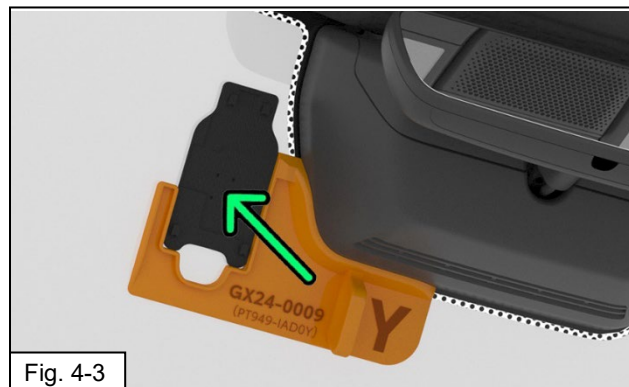

Fig. 4-3
- (e) Remove adhesive and stick mounting plate on windshield while aligning to the lower and right-side edges of the mounting plate. Press firmly to reduce visible air pockets. Note that the narrow end of the plate is towards the top of the windshield. (Fig. 4-3)